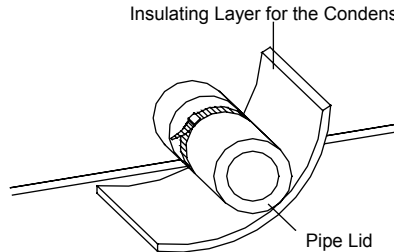

Fig.13 Thermal Insulation of the Condensate Pipe
- (1). The condensate pipe should keep a inclination angle of $5 \sim 10^\circ$, which can facilitate the drainage of the condensate water. And the joints of the condensate pipe should be insulated by the insulation material to prevent condensing(see Fig.13).